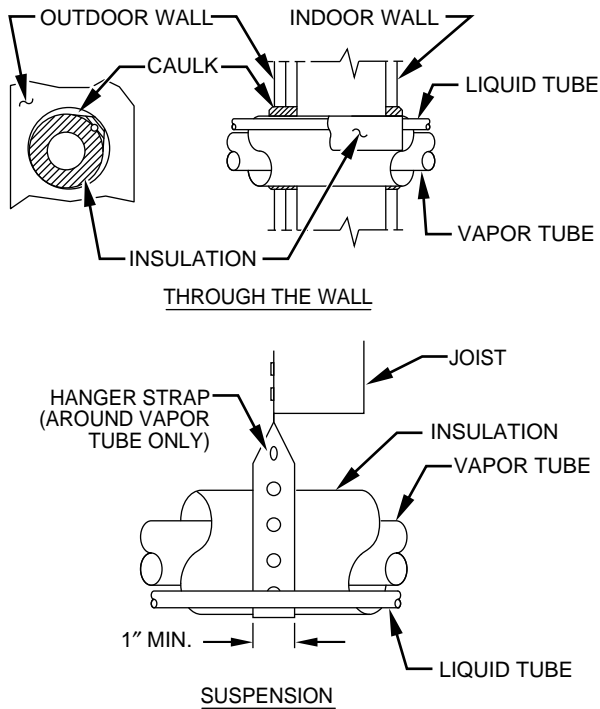

Fig. 2—Connecting Tubing Installation
7. Do not suspend refrigerant tubing from joists and studs with a rigid wire or strap which comes in direct contact with tubing. (See Fig. 2.)
9. When necessary, use hanger straps which are 1 in. wide and conform to shape of tubing insulation. (See Fig. 2.)
5. When passing refrigerant tubes through the wall, seal opening with RTV or other pliable silicon-based caulk. (See Fig. 2.)